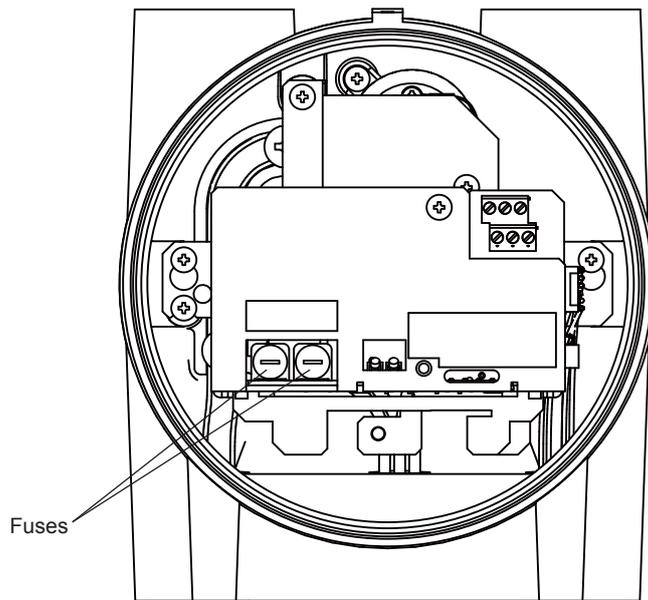

Figure 6.5
- (4) Loosen the locknut on the cover for the protection system A on the right side and remove the cover.
- (5) The fuses are located on the front side, as shown in Figure 6.5.
- (6) Use a flathead screwdriver to rotate the fuse holder cap counterclockwise and remove it from the fuse holder.
- (7) Replace the fuse in the fuse holder cap with a new one.